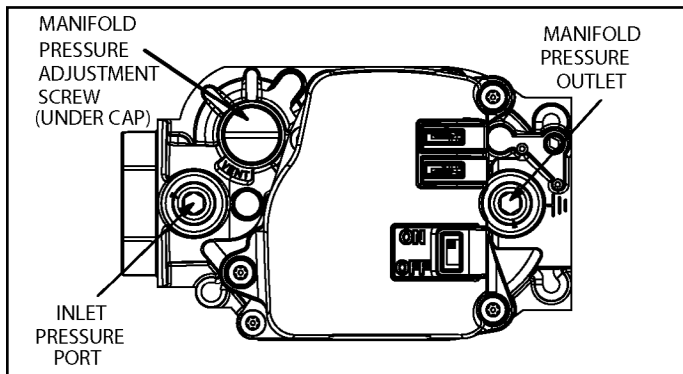

Figure 62. Gas Valve Shown in "ON" Position
See Figure 62
6. Move gas valve switch to OFF. See Figure 62.
8. Move gas valve switch to ON. See Figure 62.